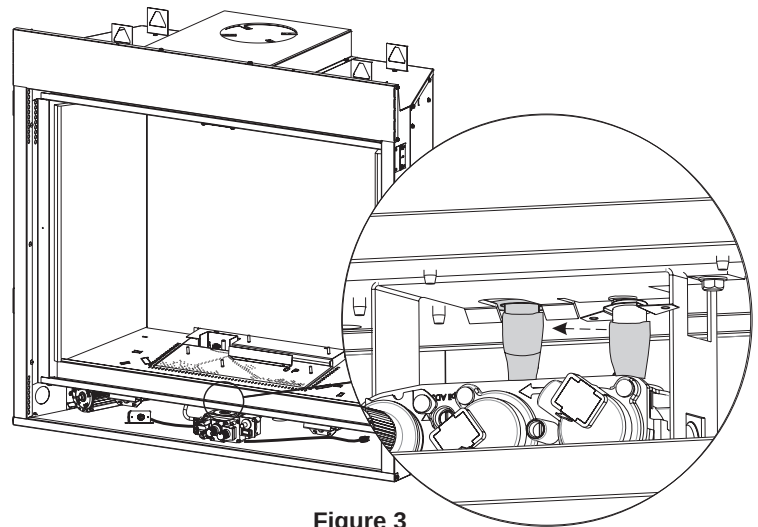

Figure 3
5. Install thermo-disc by snapping into valve bracket under the burner assembly. **See Figure 3.**